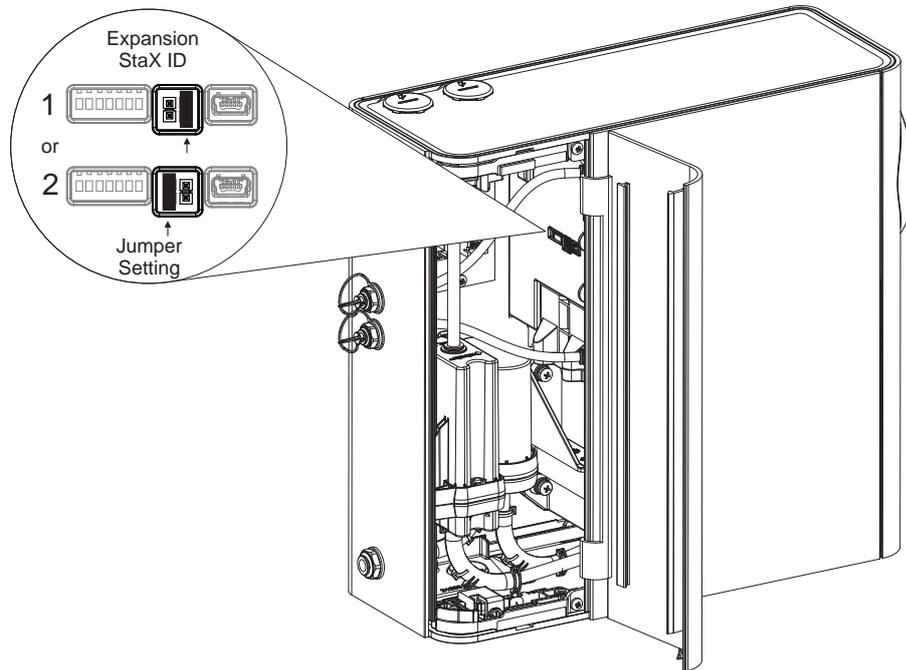

Figure A-18: Expansion StaX address configuration
- Set the address of Expansion StaX to 1 or 2 via jumpers inside the unit, a single jumper must be inserted on the Expansion StaX as shown (Figure A-18).